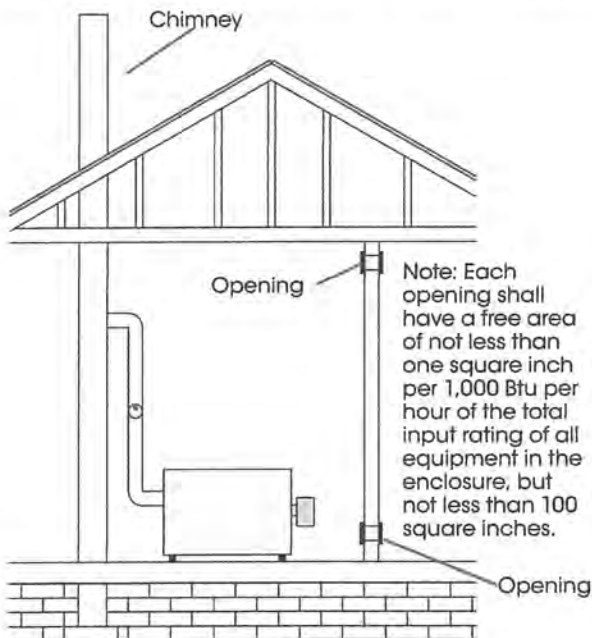

Figure 7 - Air from inside
a) All air from inside of building: Providing infiltration in the rest of the building is adequate, the confined space may be provided with two permanent openings communicating directly with another room or rooms of sufficient volume that the total volume of all spaces meets the criteria for unconfined space. One opening must be within 12 inches of the bottom of the enclosure. See Figure 7.